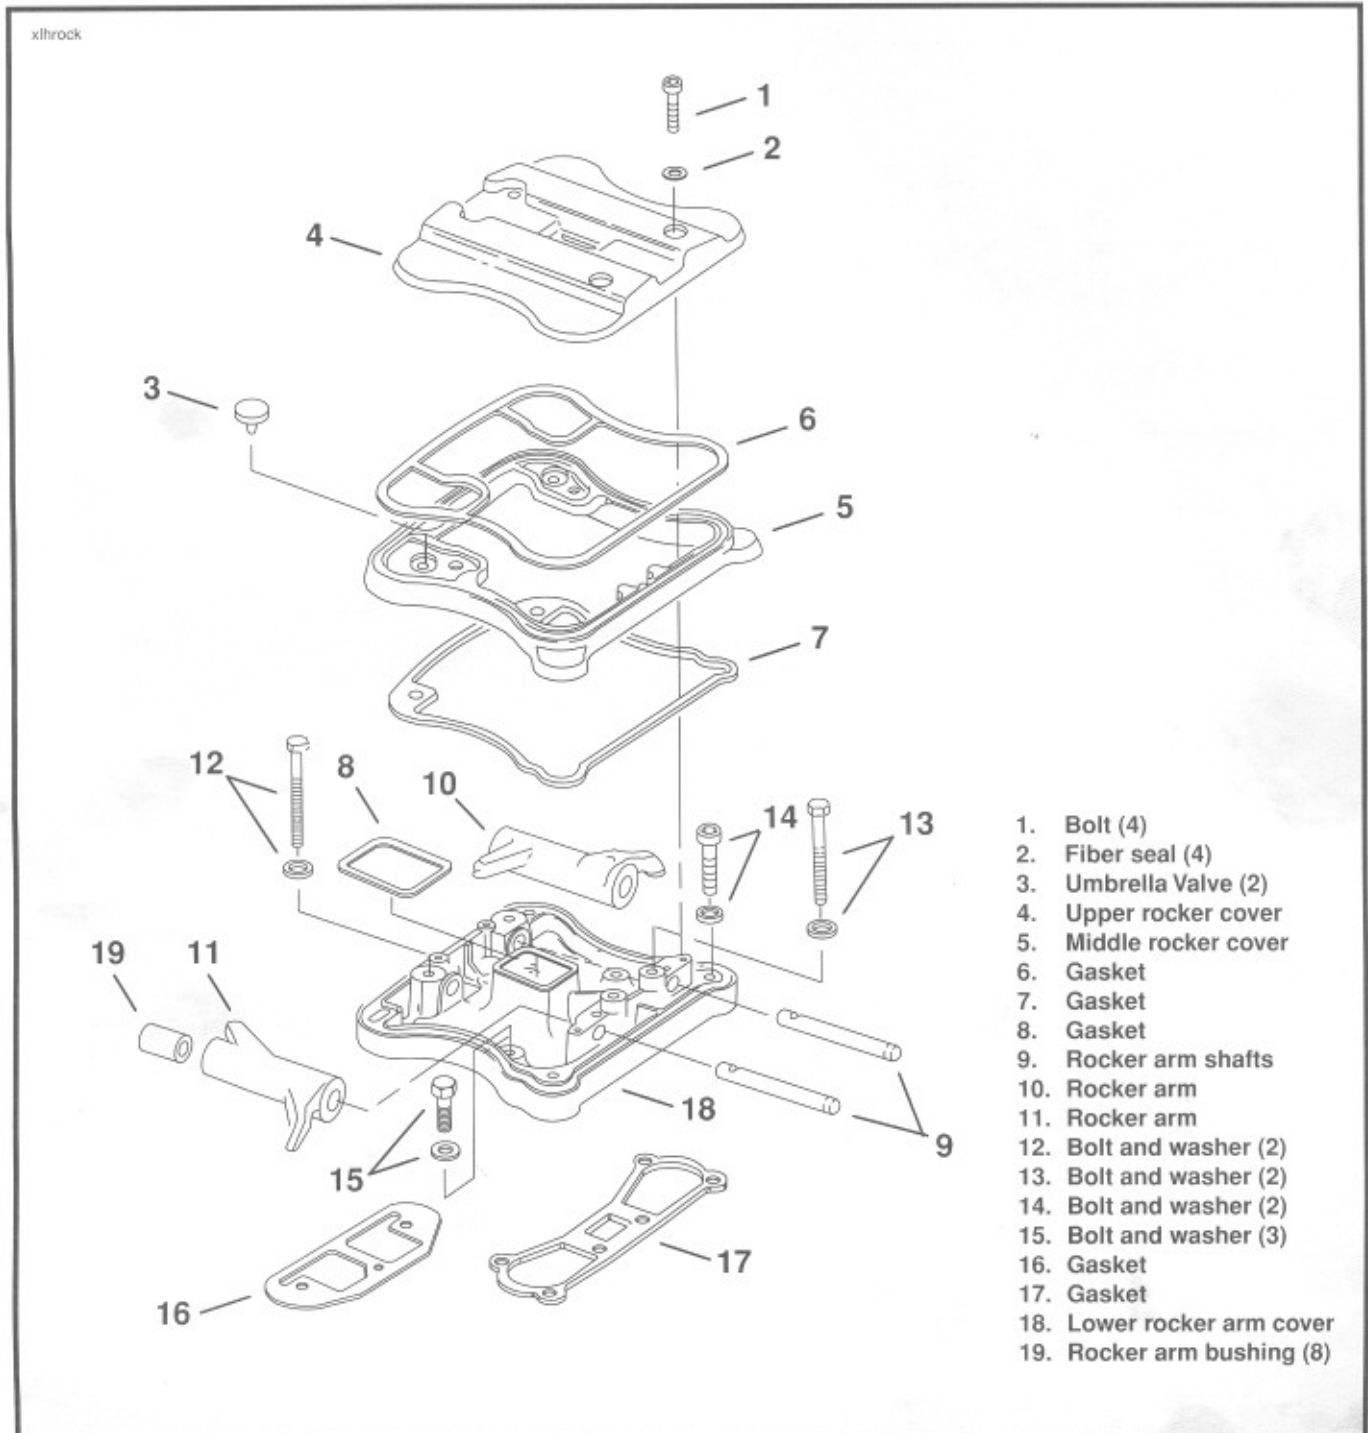

Figure 3-5. Rocker Arm Cover
1. See Figure 3-5. Remove four bolts (1) and fiber seals (2). Discard fiber seals.
- See Figure 3-5. Remove rocker arms (10, 11); mark them for reassembly in their original locations.